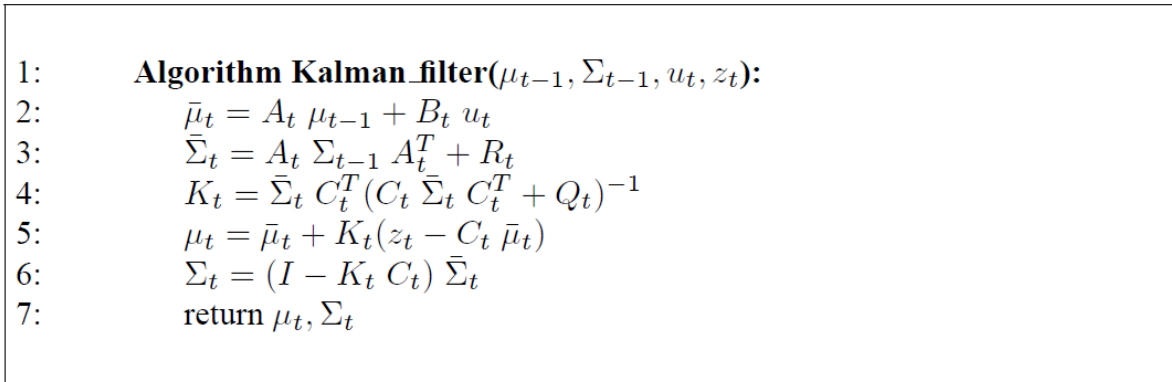

Figure 1: Kalman filter. Note that steps 2 and 3 (called prediction) can be done independent from steps 4 to 6 (update step).
8. (Q) Another method to fuse measurements is the Kalman filter. Take a look at the formula (seen in class) in Figure 1. What are μ , Σ , u and z ? What is the purpose of K ?
10. (I) Create the new state variable $\mu = [x]$. And implement the prediction step for μ such that the position value of μ increases by the odometry measure every timestep (i.e. every time the prediction is called). Run your code and verify (through printing) that μ increases as expected. *Hint: Since for now we don't have a robot model A we can set A to 1, without external input our estimation remains as it is. The odometry measure is added through u .*
11. (I) Create the noise state variable $\Sigma = [0]$. By initializing Σ in this way, what are we assuming?
12. (I) Implement the noise prediction update step. What is the purpose of R ? (Hint: line 3 of Figure 1).
13. (I) Implement now the correction step. This step is called every time a new measure is acquired to correct or update the prediction. Set the measurement noise covariance matrix (C) to *localization_noise*². Uncomment the plotting function to plot μ , run your code and compare the result with what you obtained before.
14. (I) We shall now consider the case where the robot speed v is considered as part of the state. Start by commenting out your previously implemented Kalman filter. Then create the new state variable $\mu = [x; v]$ with the noise state variable $\Sigma = [0, 0; 0, 0]$. Define A and B such that the position value of μ increases by *mov* every timestep. Adapt R for your code to execute and run your code and verify that μ and Σ increase as expected. *Hint: Be careful about the dimensions of your matrices.*
15. (I) Copy your previously implemented correction step and adapt it to the new two-variable state. Run your code and observe the result. Is there a major difference to the previous Kalman filter result? (Uncomment your previous implementation if you are not sure)